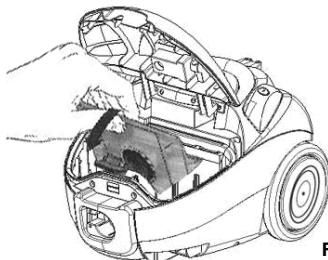

Fig. 7
4. Tilt the bag forward as shown in Fig. 7.